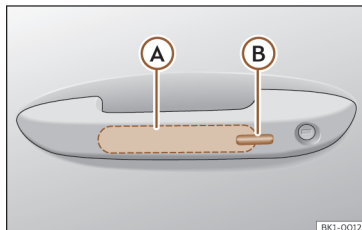

Fig. 73 Door handle: sensor surfaces.
>>> **Fig. 73**
- Touch the sensor surface >>> **Fig. 73** (B) on the outside of the door handle. All turn signals flash once.
- Within 5 seconds, touch the sensor on the outside of the door handle once >>> **Fig. 73 (B)**. Do not grip the handle while doing so. This temporarily deactivates the Keyless Access system.
To close all the electric windows and the sunroof using the **comfort function**, keep a finger for a few seconds on the locking sensor surface >>> **Fig. 73 (B)** of the door handle until the windows and roof have closed.